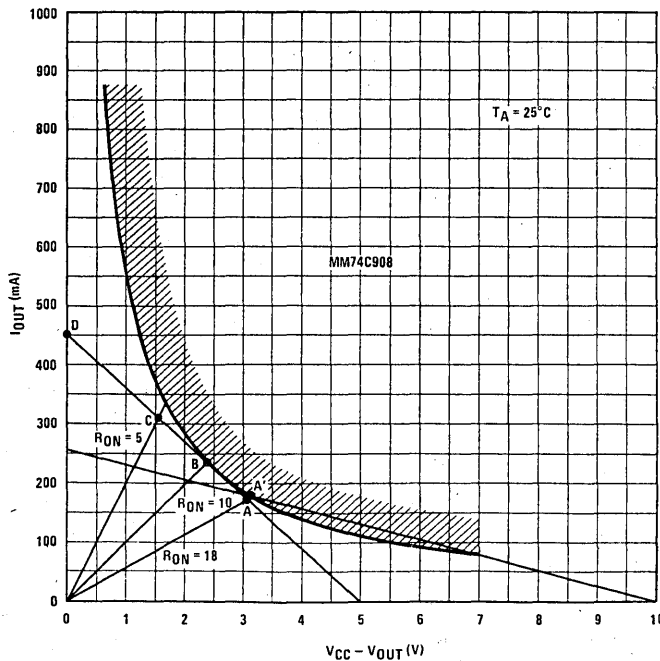
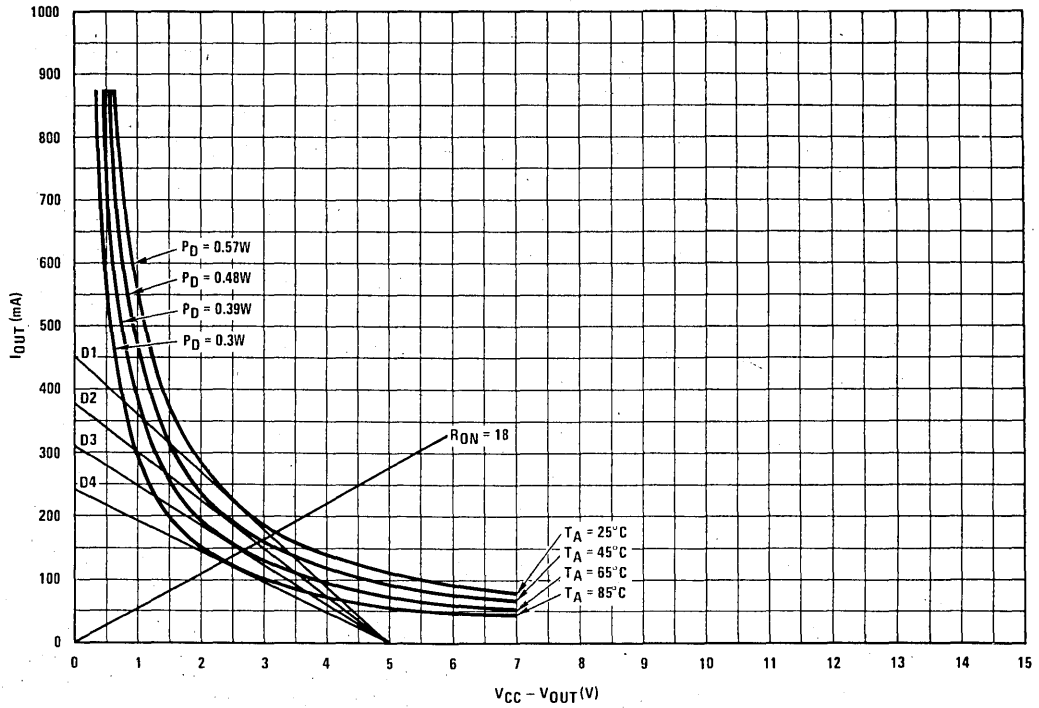

FIGURE 4
FIGURE 6
A constant power curve $P_D = 0.57W$ can then be plotted as shown in Figure 4. The circuit must operate below this curve. Any voltage-current combination beyond it (in the shaded region) will not guarantee T_j to be lower than $150^\circ C$.
For any given R_L , a load line (7) can be superimposed on Figure 4.
Given V_{CC} and V_L , a minimum R_L can be obtained by drawing the load line tangent to the constant power curve. In Figure 4, at $V_{CC} - V_L = 5V$ the line intersects I_{OUT} axis at $I_{OUT} = 450$ mA. Thus, $R_{L(MIN)} = 5V/450$ mA = 11.1Ω . Any R_L value below this will move the intersecting point up and cause a section of the load line to extend into the shaded region. Therefore, the junction temperature can exceed $T_{j(MAX)} = 150^\circ C$ in the worst case if the circuit operates on such a section of the load line.
For $V_{CC} - V_L = 10\text{V}$, however, a section of the load line can go beyond the $P_D = 0.57\text{W}$ curve without affecting the safe operation of the circuit. By inspection of Figure 4, the reason is clear—the load line extends into the shaded region only outside of the specified R_{ON} range (to the right of point A'). Within the R_{ON} range, the load line lies below the $P_D = 0.57\text{W}$ curve, thus, a safe operation.
For different ambient temperatures or for different power considerations, Figure 4 can be applied by properly scaling the I_{OUT} axis. (Note that $I_{OUT} \propto T_j - T_A$ and $I_{OUT} \propto P_D$).
To further simplify the design, a family of such curves has been generated as shown in *Figure 6*. Each of these curves corresponds to a particular T_A and P_D (per driver) as indicated, and similar to the $P_D = 0.57W$ curve in *Figure 4*, is generated from (6) by using appropriate T_A values. The application of these curves is illustrated as follows:
By constructing the load lines tangent to the curves for $T_A = 25^\circ C, 45^\circ C, 65^\circ C$ and $85^\circ C$, $R_L(\text{MIN})$ for each case can be obtained through the vertical coordinate for the intersection points as shown in *Figure 6*. These are calculated in Table I.